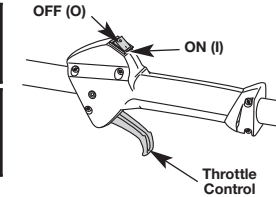

Fig. 7
- NOTE:** There is no need to turn the unit on. The On/Off Control is in the ON (I) position at all times (Fig. 7).
2. Press and hold the On/Off Control switch in the **OFF (O)** position until the unit comes to a complete stop (Fig. 7).